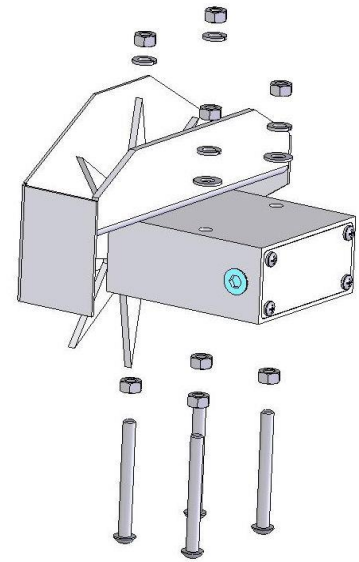

Figure 9
3. Install the eight (four per side) M8 x 80mm Allen head cap screws. Make sure the Allen heads are in the bale chamber. Secure using M8 hex nuts. Figure 9
6. Secure the star wheels and twine diverters with four M8 hex nuts, lock washers, and two flat washers. Figure 9